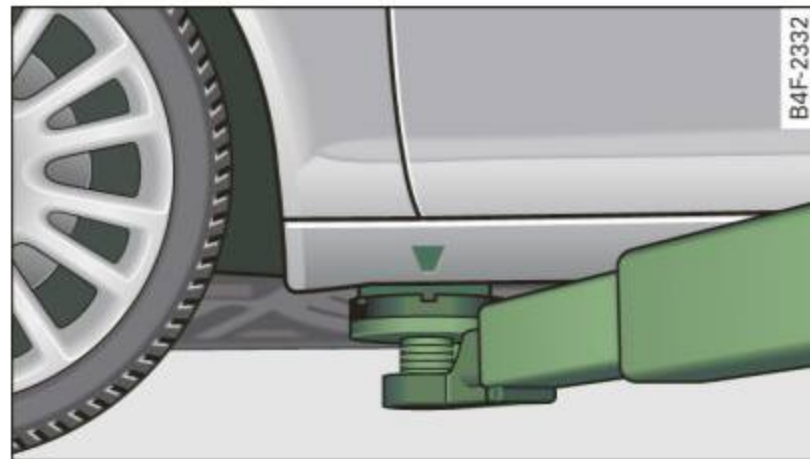
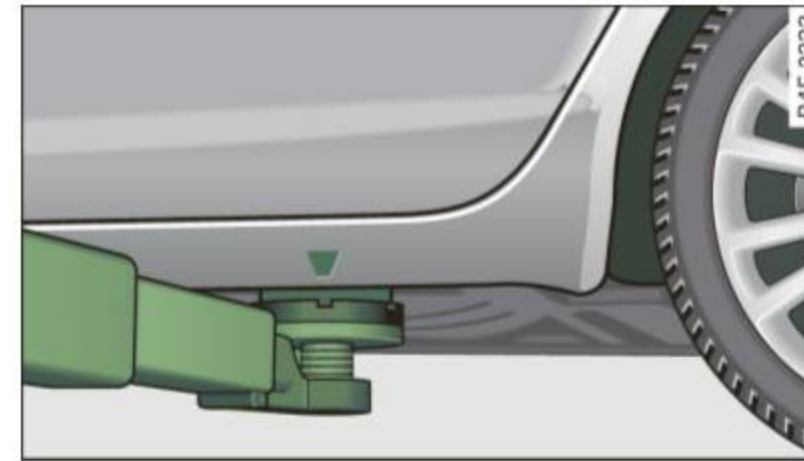

Fig. 245 Front lifting point
Fig. 246 Rear lifting point
- Locate lifting points ⇒ fig. 245 and ⇒ fig. 246.
The lifting point is located on the floor pan reinforcement about at the same level as the jack mounting point ⇒ fig. 245. **Do not lift the vehicle at the vertical sill reinforcement.**
The lifting point is located on the vertical reinforcement of the lower sill for the onboard jack ⇒ fig. 246.
- Always lift the vehicle only at the special workshop hoist and floor jack lift points illustrated ⇒ *page 330, fig. 245* and ⇒ *page 330, fig. 246*.